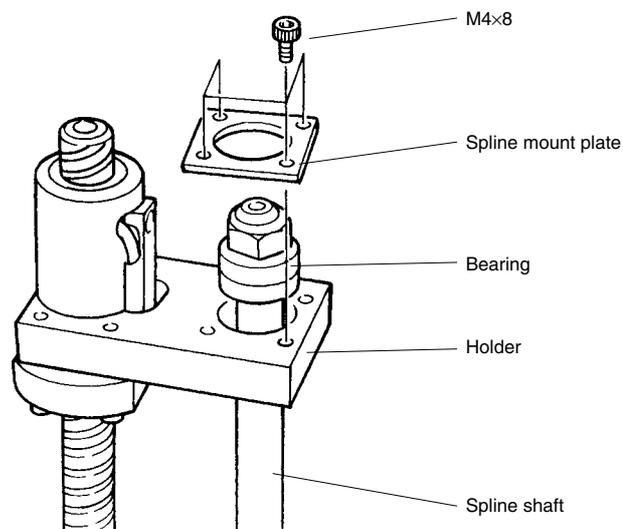

Fig. 5-11
- 6) Remove the bolts (M4×8L, 4 pieces) securing the bearing to the upper end of the spline and remove the spline mount plate, spline and bearing from the holder. (See Fig. 5-11.)
- 24) Insert the spline into the holder, fit the bearing onto the spline and tighten the U-nut to secure the bearing. (Utilize the  $\phi 5$  through-hole when tightening the U-nut like you did to loosen it.) (See Fig. 5-11 and Fig. 5-12.)